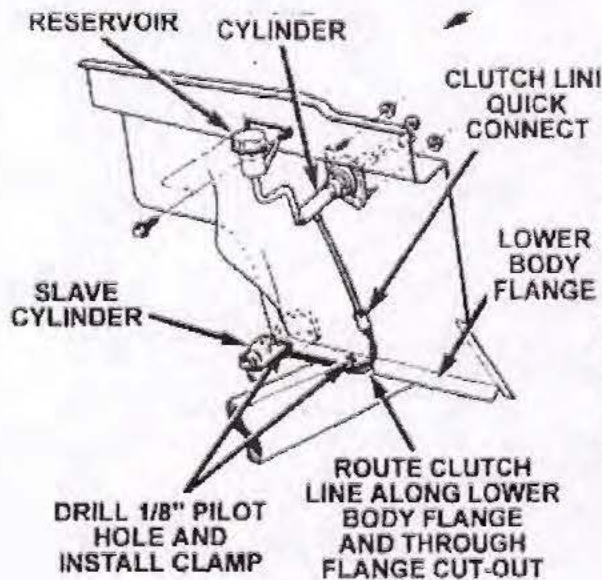

Figure 3
17. Position the new clutch master cylinder into the vehicle so that the clutch line quick connect fitting is located downward against the lower dash panel and rearward of the inner fender (Figure 3).
25. Route the flexible clutch line along the REAR side of the lower body flange and OVER the fuel line (Figure 3).
28. Remove the rearmost three (3) plastic rivets from the left front wheel well splash shield. Pull the splash shield forward to access the lower body flange.
29. Drill two (2) $\frac{1}{8}$ " pilot holes through the lower body flange as shown in Figure 3.
NOTE: Install the inboard clamp first. Make sure that the clutch line is routed through the lower body flange cutout (Figure 3).